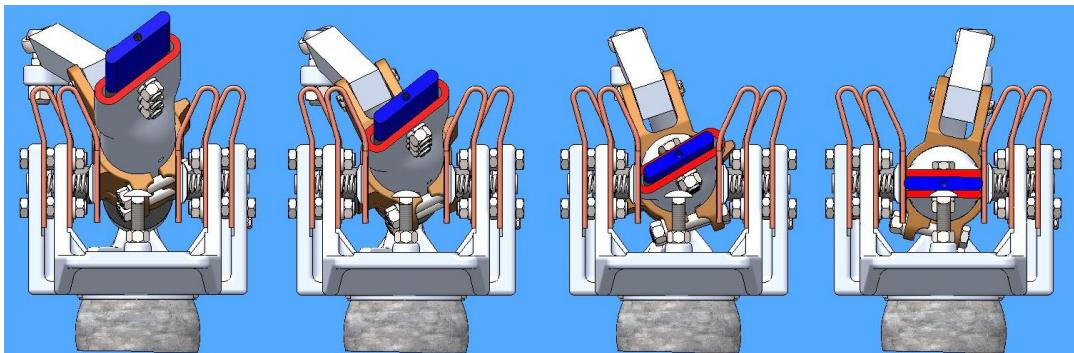

Figure 5: Blade Tip Travel
2.1.3. The blade tip must come down into the center of the jaw without dragging on either side as shown in **Figure 5**. Use shims on the jaw insulator to tilt the insulator if needed to ensure this condition.